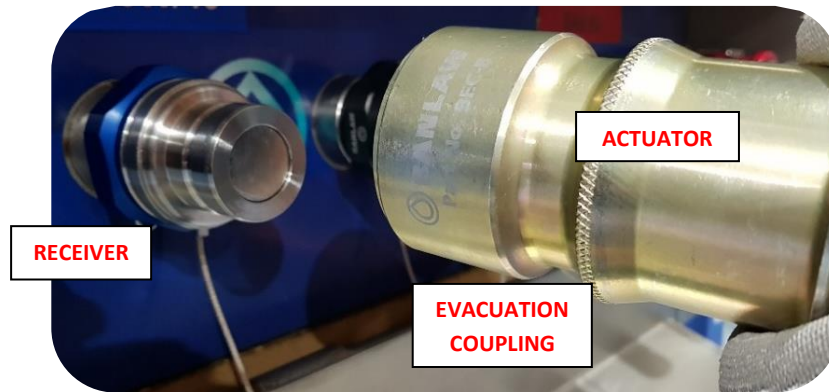

Figure 7 - Preparing for Connection
5. Align the front of the Evacuation Coupling with the Receiver – refer Figure 7.